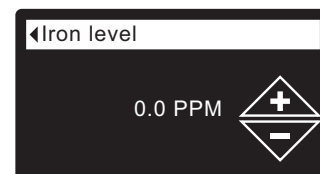

FIG. 105
5. Press the SELECT (O) button to display the Iron level screen (See Figure 105).